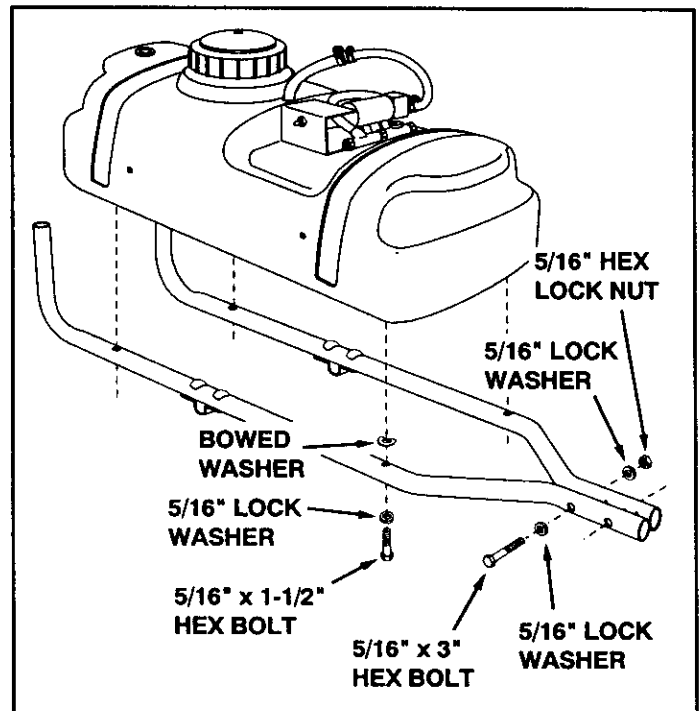

FIGURE 2
- (1) Hammer
- Assemble the hitch tubes to the tank using four 5/16" x 1-1/2" hex bolts, 5/16" lock washers and bowed washers. **Do not tighten yet.** See figure 2.
- Fasten the hitch tubes together at the front using two 5/16" x 3" hex bolts, four 5/16" lock washers and two 5/16" hex lock nuts. **Do not tighten yet.** See figure 2.
- **Tighten** the four bolts which fasten the hitch tubes to the bottom of the tank. See figure 2.
- **Tighten** the two bolts which fasten the front of the hitch tubes together. See figure 2.